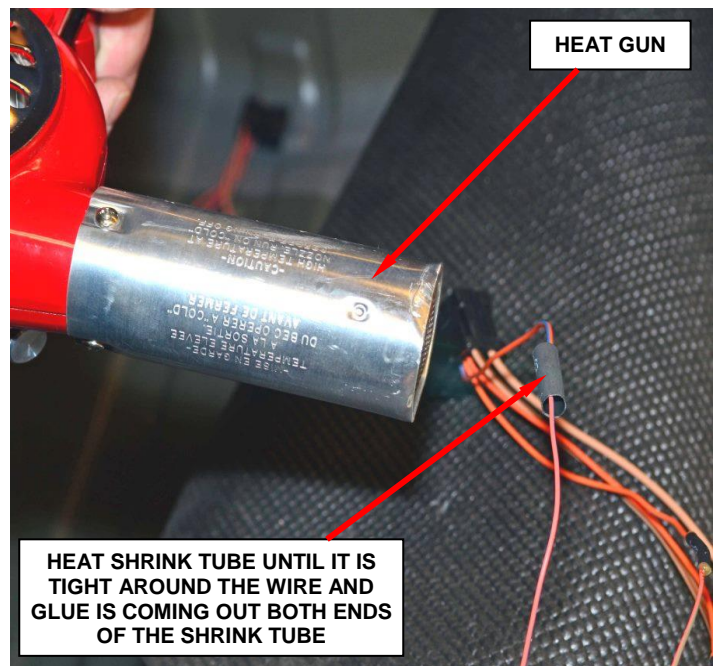

Figure 13 – Apply Heat to Shrink Tube
- f. Slide the shrink tube over the brass splice band and apply heat until glue comes out of both ends of the shrink tube (Figure 13).